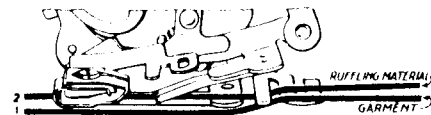

Fig. 51. Correct Positions for Materials.
1. Insert material to be ruffled between two blue blades and under separator guide (Line 2, Fig. 51).
2. Place material to which ruffle is to be attached under separator blade and under separator guide (Line 1, Fig. 51).